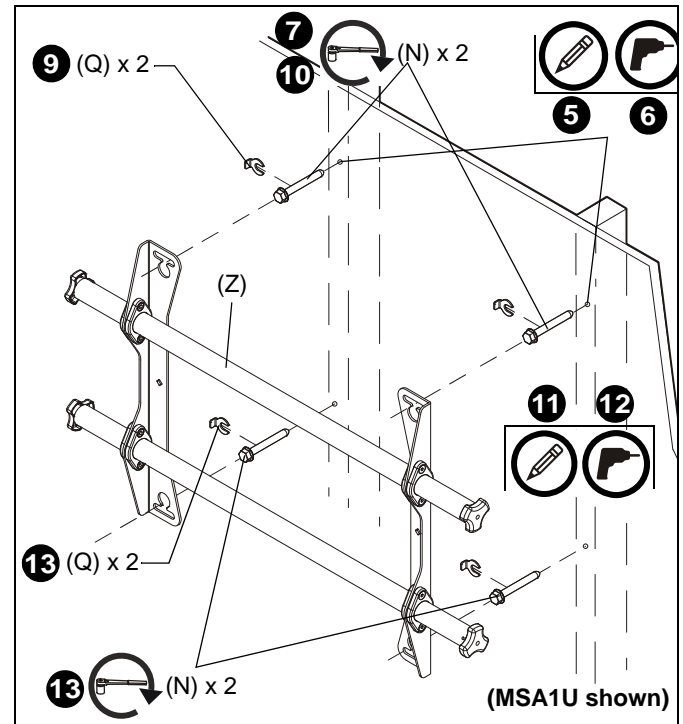

Figure 2
5. Using a level, mark the wall on each stud to attach the mount through the upper mounting slots. (See Figure 2)
7. Partially install two 5/16 x 2-1/2" flanged lag bolts (N) into pilot holes but do not tighten to wall.
8. Hang mount (Z), aligning upper mounting slots over lag bolts and adjust side-to-side for proper location.
9. Place one slotted washer (Q) over each flanged lag bolt. (See Figure 2)
10. Tighten lag bolts to secure mount (Z) to wall at upper mounting slots.
11. Mark the attachment points for the lower mounting slots, making sure the attachment points are located on the studs. (See Figure 2)
12. Drill 7/32" (5.5mm) pilot holes at markings for lower mounting holes. (See Figure 2)
13. Use two 5/16 x 2-1/2" flanged lag bolts (N) and two 5/16" slotted washers (Q) to attach the mount to the wall through the lower mounting holes. (See Figure 2)